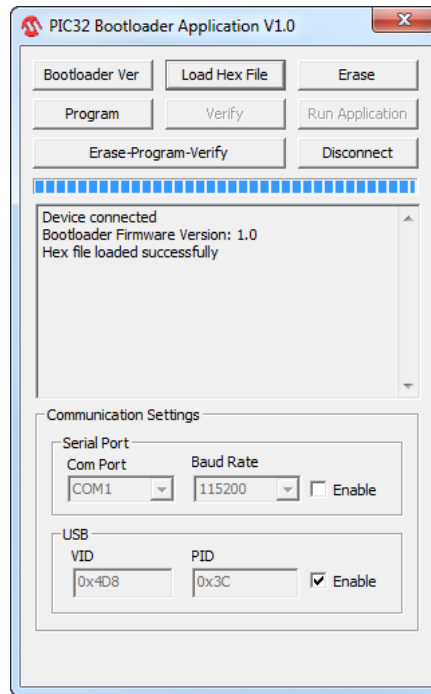

Fig. I4 Load Firmware File
- Click "Load Hex File" button to locate the firmware file on the PC. For easy identification, the firmware file name is named after the board name (NCAP-ETH, NCAP-MAIN or TIM-COM) and extension is "hex". Fig. I4